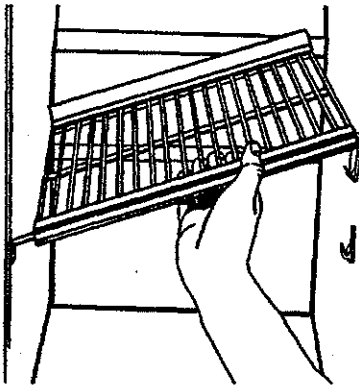

Figure 73
- b. Tilt shelf up and to left until shelf rods release from holes in left side wall. See Figure 73.